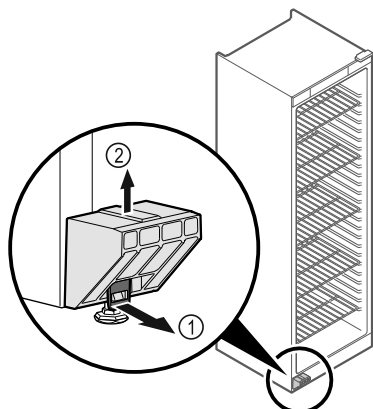

Fig. 4
- Pull tab Fig. 4 (1) forwards.
- Take off transport lock Fig. 4 (2) in upwards direction.